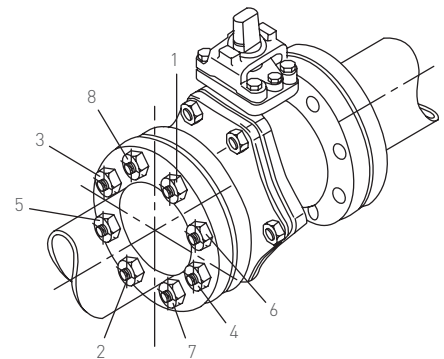

FIGURE 2 - TIGHTENING OF BOLTS
4. Tighten the flange bolts with a closed wrench, using a "crisscross" pattern that alternately tightens the bolts located 180 degrees apart. Unequal partial tightening places stress on lined pipes which may damage the flange or produce excessive operation torque (see Fig. 2).